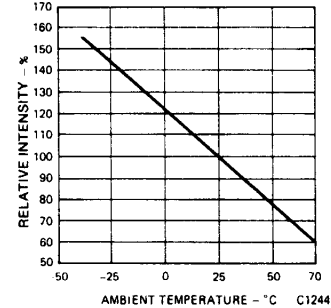

Fig. 3. Luminous Intensity vs. Temperature (See Note 2)
2. The curve in Figure 3 is normalized to the brightness at 25°C to indicate the relative efficiency over the operating temperature range.